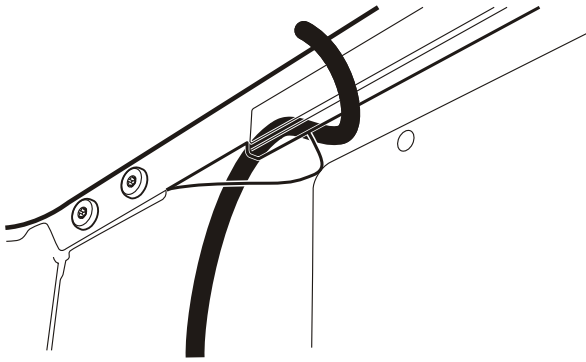

Figure 27
46. Run the interior lamp harness under the lip of the tray and through the opening into the tail lamp cavity. Refer to figure 27.